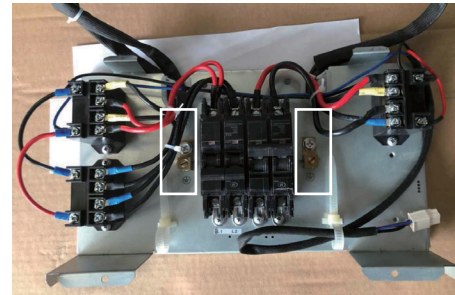

Fig. 31 — Secure the power input wires of each group
- See Figure 31 for the securing position of the power supply ground wire. Secure the power input wires for each group, and make sure that the cable is properly grounded.